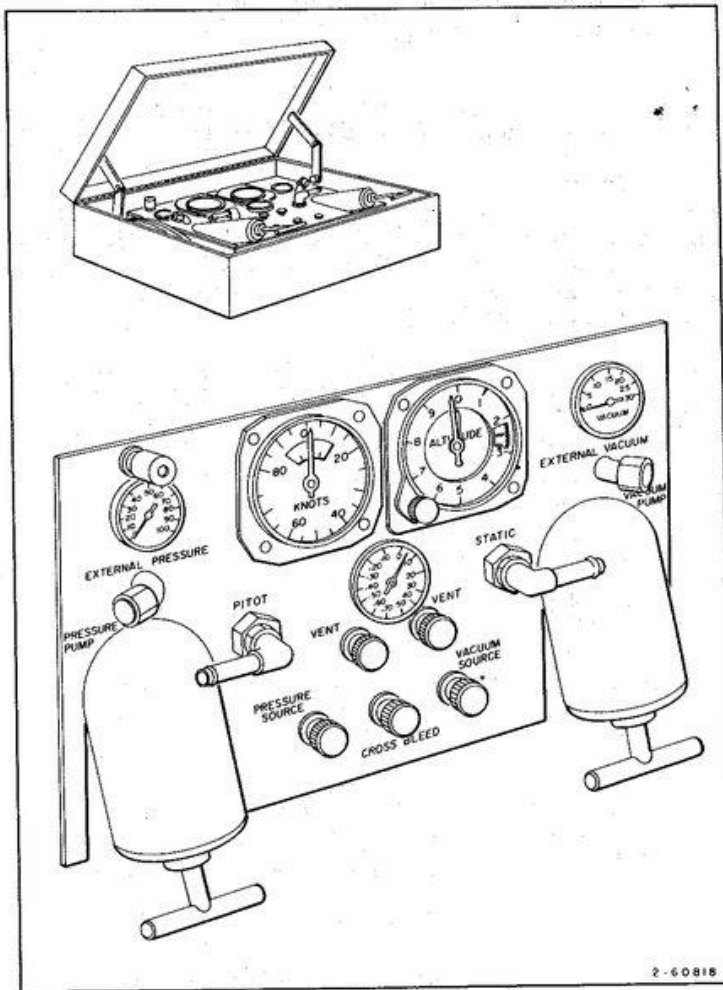

Figure 3-7. Pitot Static System Test Set
- a. Obtain Pitot Static System Test Set (figure 3-7) from its stowed position.
- g. Connect static hose between STATIC connection on Pitot Static System Test Set (figure 3-7) and hose adapter on right side of Center Section.
b. Rotate PRESSURE SOURCE valve on Pitot Static System Test Set (figure 3-7) counterclockwise until airspeed indicator indicates 271 knots; then rotate PRESSURE SOURCE valve fully clockwise.
a. Adjust knob on ALTITUDE dial of Pitot Static System Test Set (figure 3-7) for barometric pressure of day.
- a. Rotate vacuum VENT valve counterclockwise until ALTITUDE dial of Pitot Static System Test Set (figure 3-7) indicates zero.
- g. Rotate Pressure Source valve (CCW) until airspeed indicator indicates 271 knots; then rotate Pressure Source valve fully (CW).
b. On request of Mech. No. 2, disconnect pitot and static hoses from Pitot Static System Test Set (figure 3-7) and Missile.
- c. Connect static hose between STATIC connection on Pitot Static System Test Set (figure 3-7) and hose adapter on right side of Center Section.